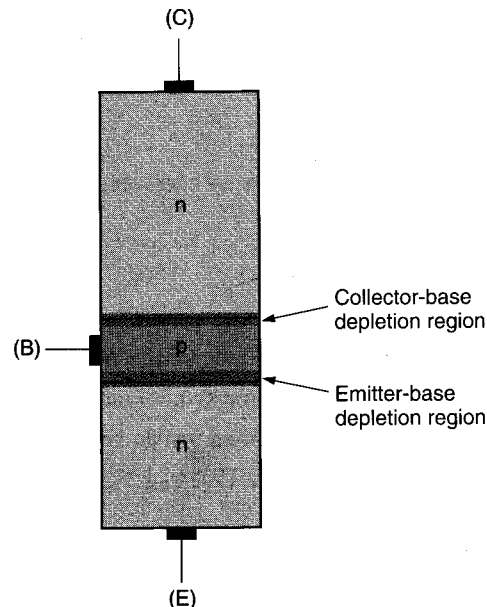

FIGURE 6.5 Zero biasing.
Figure 6.5 shows the *nnp* transistor at room temperature with no biasing potential applied. You may recall from Chapter 1 that an unbiased *pn* junction forms a depletion layer at room temperature due to recombination of free carriers produced by thermal energy. These depletion layers are shown in Figure 6.5.
- How would you go about demonstrating that the depletion layers shown in Figure 6.5 exist when no bias is applied to a transistor?